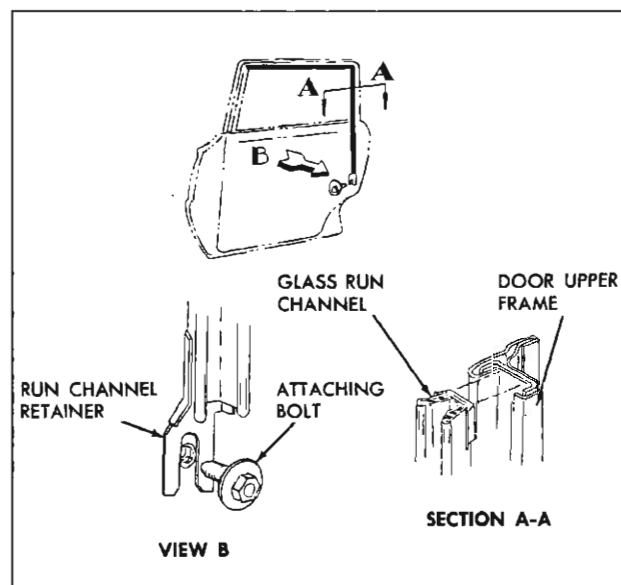

Fig. 47—Rear Door Window Glass Run Channel
2. On "35," "45" and "69" styles, through large access hole, remove screw securing lower end of glass run channel at door lock pillar and raise end of channel to expose lock assembly (fig. 47).
3. On 35-45-69 styles, remove screw securing lower end of glass run channel at door hinge pillar to gain access to spring clip securing rod to lock (fig. 47).
3. On 35-45-69 styles, remove glass run channel lower attaching screw to gain access to spring clip securing rod to lock (fig. 47).